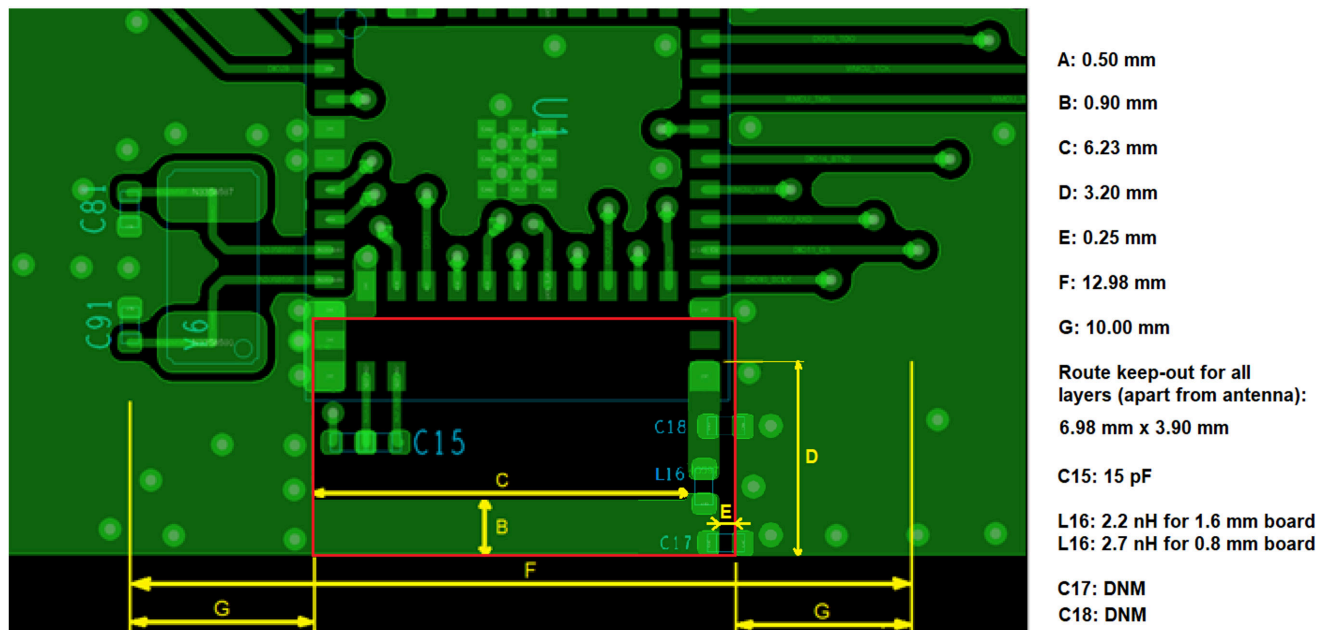

Figure 10-8. Alternate Module Layout Guidelines
The PCB layout guidelines recommended in this section are to be used when the PCB requirements of Section 10.4.2 cannot be strictly followed. This would include deviation from the recommended 4-layer PCB stackup, dielectric constant, and outlined design rules. Figure 10-8 shows the RF placement and routing of the CC2651R3SIPA module with the 2.4-GHz integrated antenna.
- Dimensions A thru F in Figure 10-8 must be strictly adhered to for optimal RF performance
- For optimal efficiency of the antenna, its best to have a minimum 10-mm ground plane on either side of the module on all layers as shown with dimension G in Figure 10-8